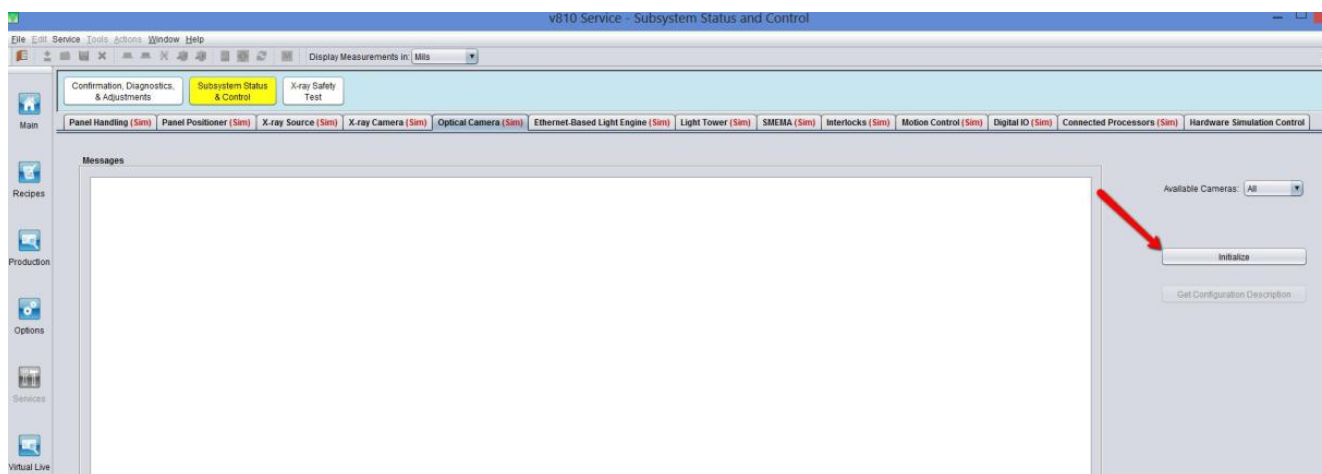

Figure 27 Optical Camera Intialize
9. Open V810 GUI and Click Initialize at Optical camera tab as below Figure 27.